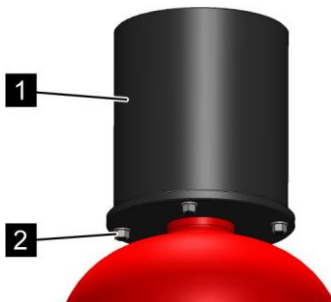

Fig. 62: Removing the protective valve cap
3. ➤ Unscrew the threaded unions (Fig. 62/2) on the underside of the protective valve cap (Fig. 62/1).
4. ➤ Remove the protective valve cap (Fig. 62/1) and keep it in a safe place for return transport of the extinguishing agent container.